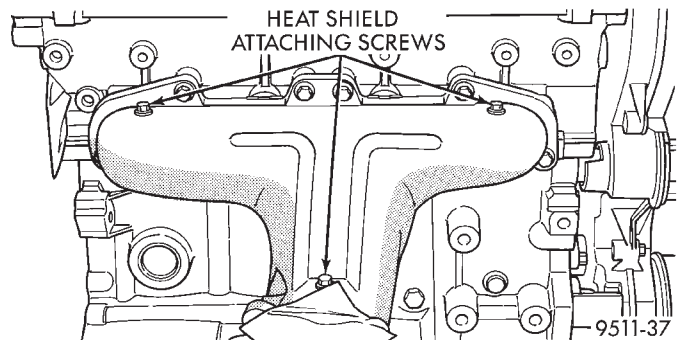

Fig. 26 Exhaust Manifold Heat Shield
- (1) Remove exhaust pipe from manifold. It may be necessary to remove the entire exhaust system. Refer to Group 11 Exhaust System for procedure.
- (2) Remove exhaust manifold heat shield (Fig. 26).